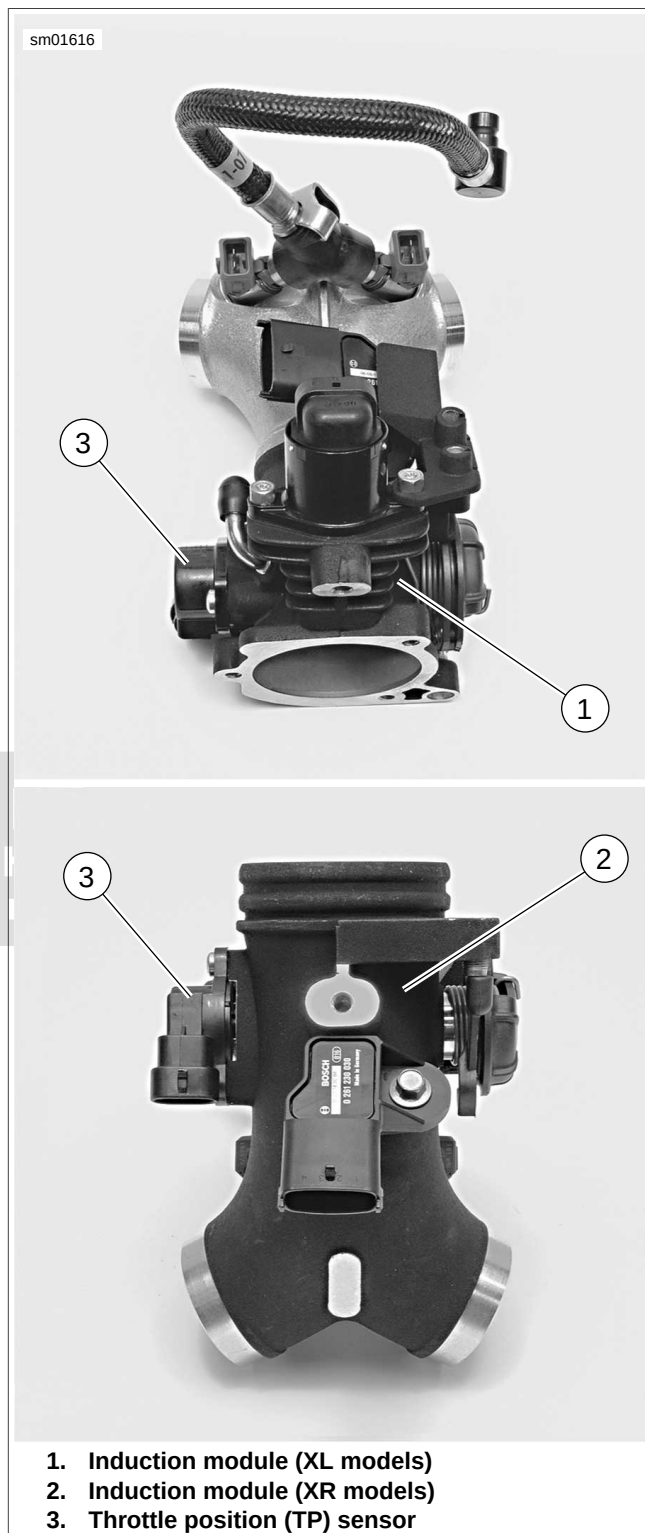

Figure 4-27. Throttle Position (TP) Sensor Location (Induction Module Removed From Vehicle for Clarity)
See Figure 4-27. The Throttle Position (TP) sensor is located on the side of the induction module and monitors the physical position of the throttle shaft.